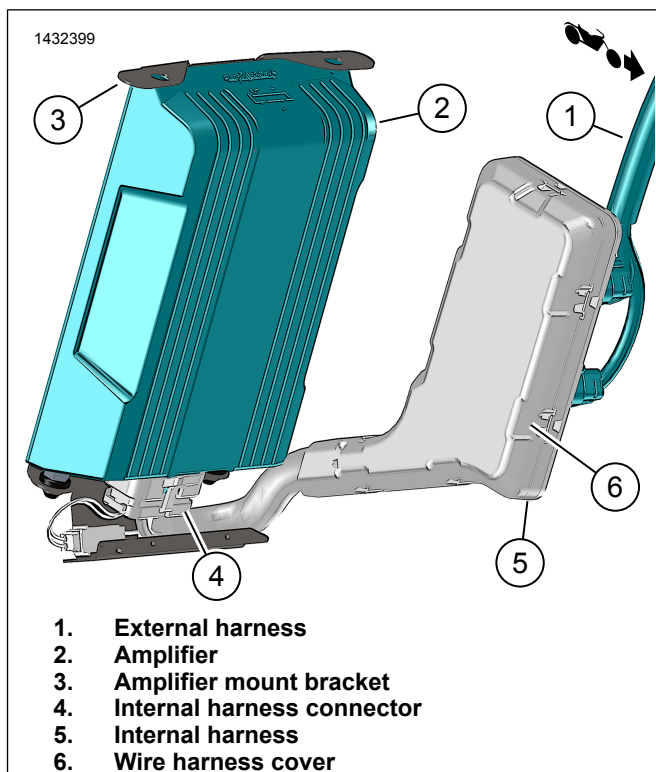

Figure 14. Right Saddlebag Amplifier Assembly
6. See Figure 14. Connect internal harness connector (4) to amplifier (2).
10. See Figure 14. Install wire harness cover (6).